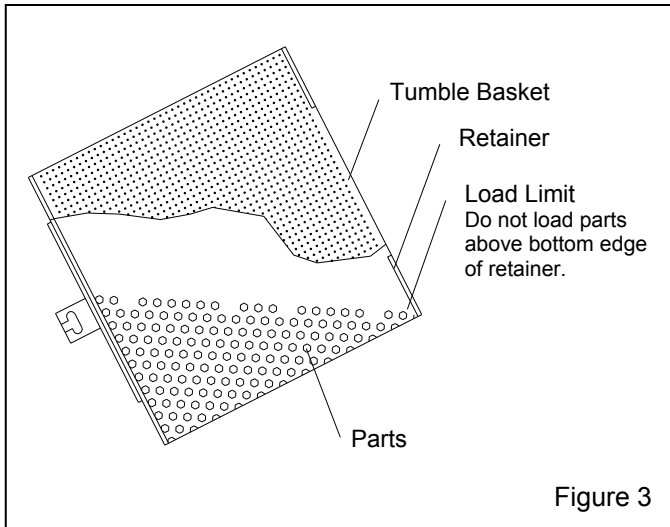

Figure 3
**3.3.2** Unlatch and open the front door and load parts directly into the tumble basket. Do not overload the basket; maximum load should not exceed 25 lb or the bottom edge of the retainer, as shown in Figure 3.
**3.4.4** Load media and parts. Note load limit in Figure 3.